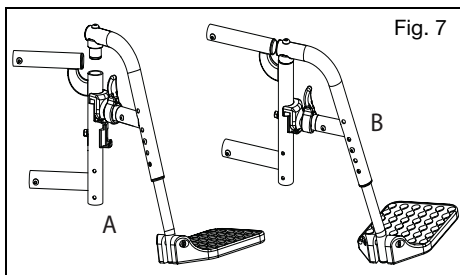

Fig. 7
- a. Place the swing away pivot saddle into the receiver on the front frame tube (Fig. 7:A).
- b. Rotate the footrest so that it aligns with the frame and locks into place in the latch block (Fig. 7:B).
- a. Place the swing away pivot saddle into the receiver on the front frame tube with the footrest facing either inward or outward from the frame. Similar to the swing away footrest pictured in Fig. 7.
- a. Place the swing away pivot saddle into the receiver on the front frame tube with the leg rest facing either inward or outward from the frame. Similar to the swing away footrest pictured in Fig. 7.